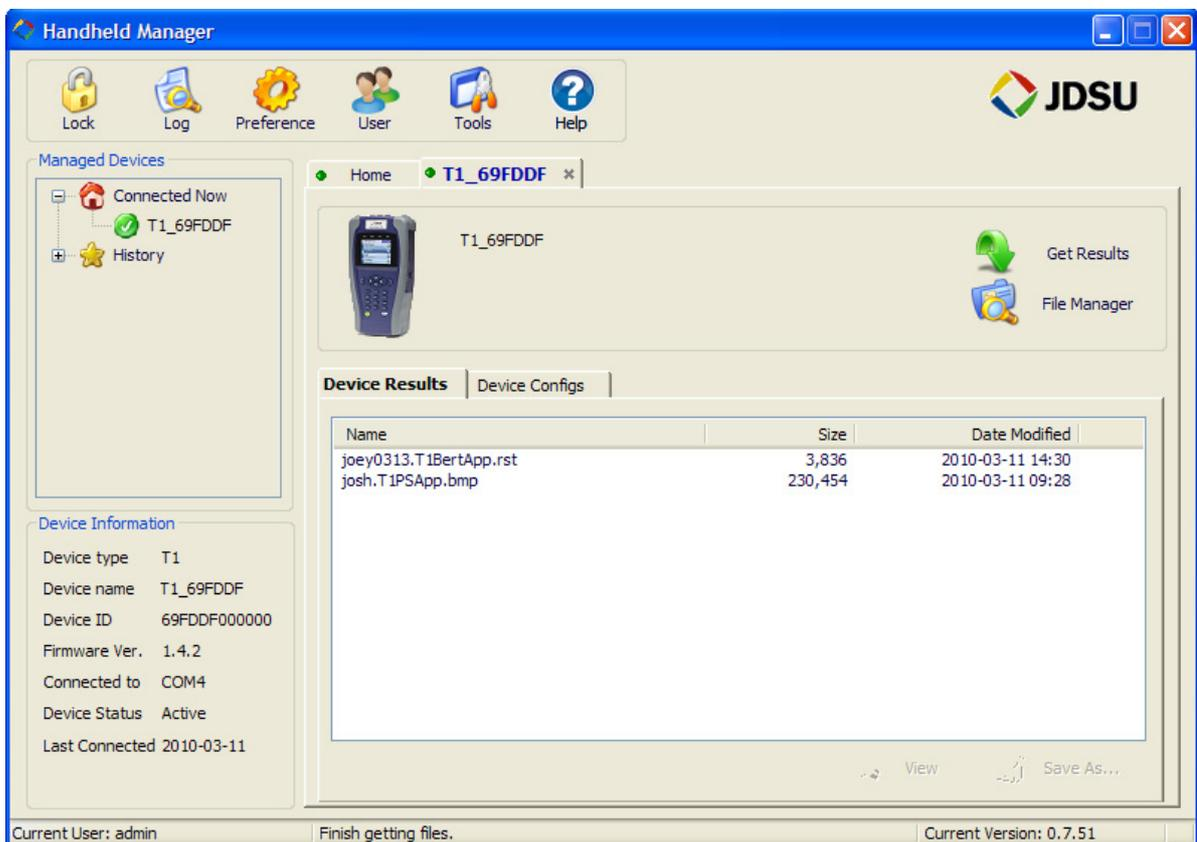

Figure 5 Downloaded results
- 2 As shown in Figure 5, this copies all of the saved results files from the unit to your computer and then displays a list of files.